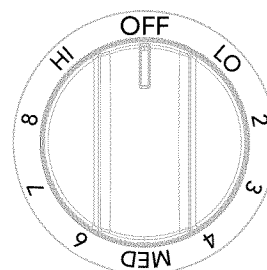

Figure 3: Control knob single surface burner
2. Push in and turn the surface control knob in either direction to the desired setting (See Figure 3). Start most cooking operations on a higher setting and then turn to a lower setting to finish cooking. Each surface element provides a constant amount of heat at each setting. A glowing red surface heating area extending beyond the bottom edge of the cookware indicates the cookware is too small for the surface heating area.